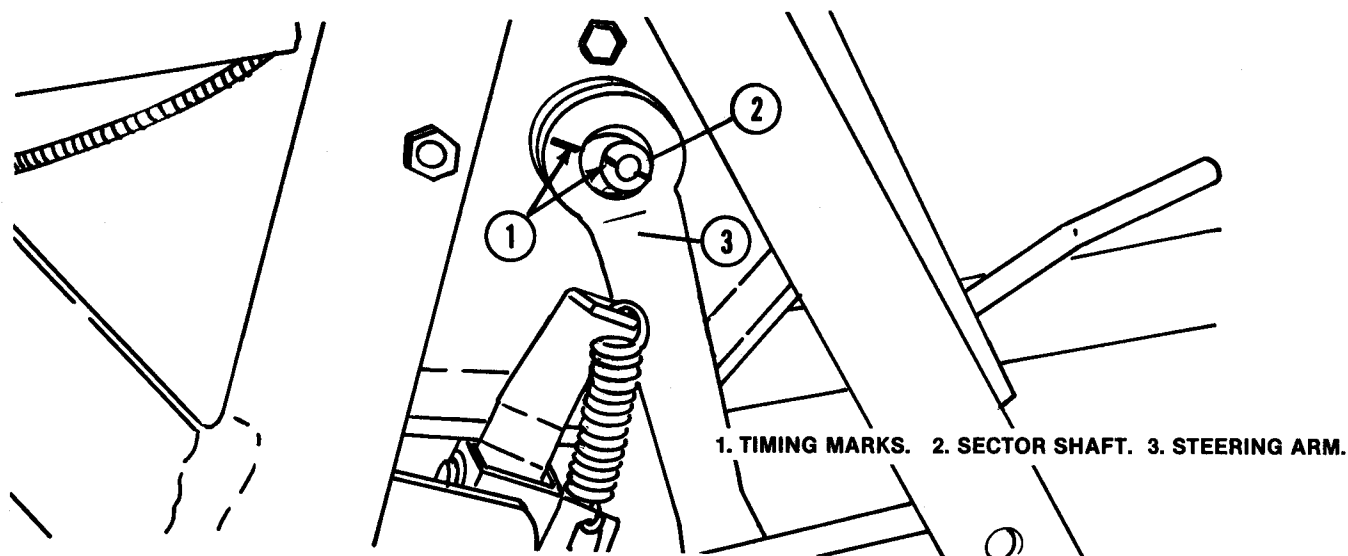

**FIG. 2.17 — STEERING ARM LOCATION ON 1855 SERIES
3. Install steering arm while aligning timing marks. Fig. 2.17. And secure with retaining washer and nut.